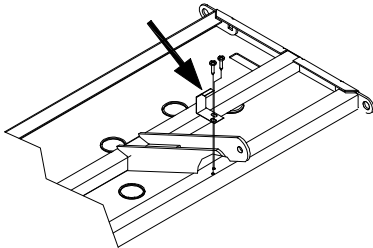

Figure 2.2E
- ☐ Micro-switch activator (see fig. 2.2E, page 15) of the optional Auto Contour mechanism.